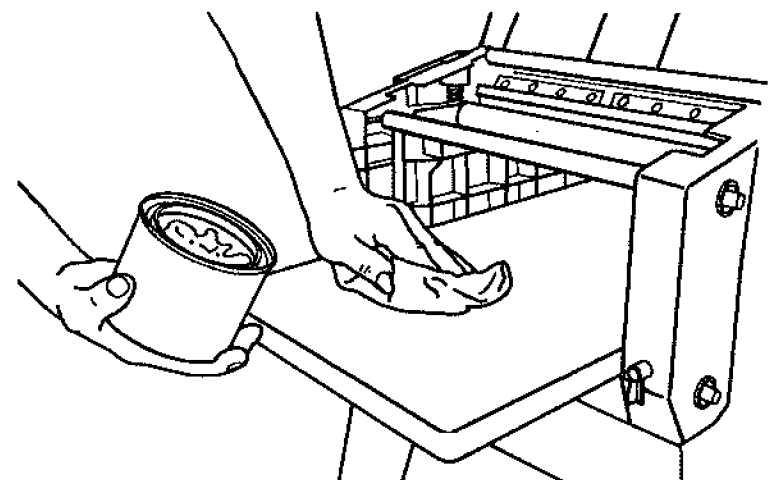

Fig. 45
56. Use a good furniture paste wax to wax the table, as shown in Fig. 45.